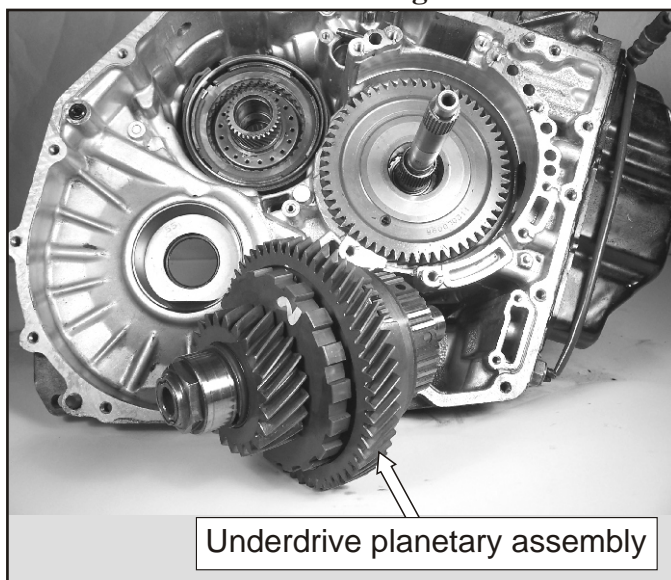

Figure 259
- 187. Grasp the underdrive planetary assembly by the pinion gear and assemble it into the underdrive clutch, by turning it to the left and right to index it into the underdrive clutches. See Figure 259.